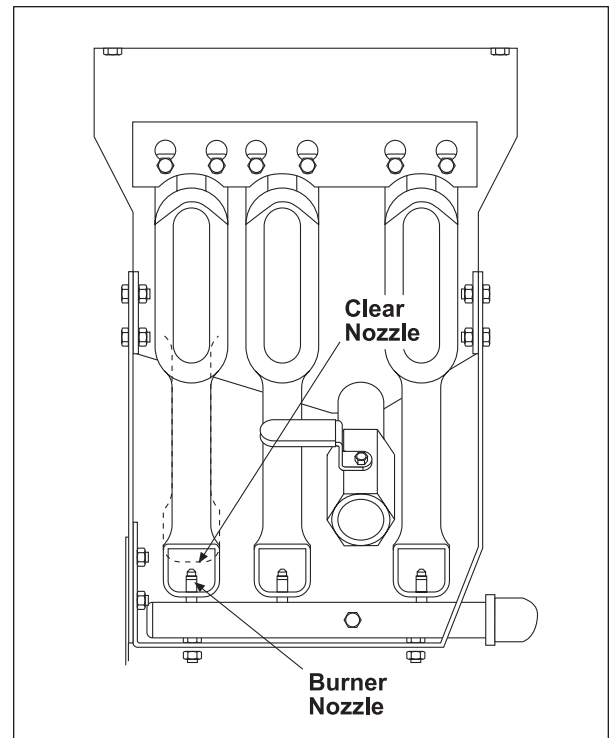

Figure 4
3. Push burner up while pulling the bottom of the burner forward to clear the burner nozzle (Figure 4).